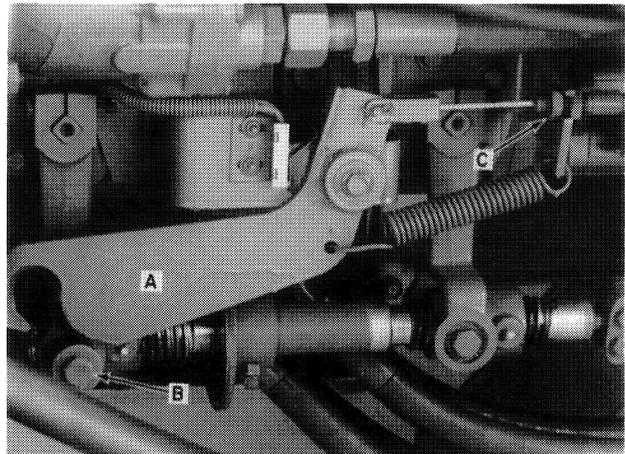

FIGURE 1
1. With the FNR lever aligned with the reverse slot, neutral lock arm, A, Figure 1, has not been lifted completely off of lockpin, B.
1. Adjust the neutral cable at C, Figure 1, so there is no interference between bracket, A, and pin, B, when the FNR lever is at the reverse slot.